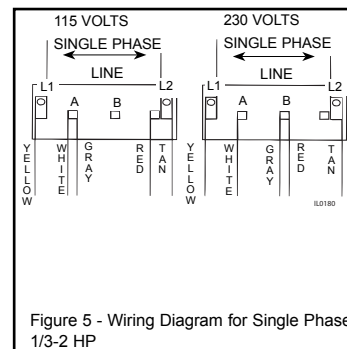

Figure 5 - Wiring Diagram for Single Phase 1/3-2 HP
⚠ Use wire size specified in wiring Chart D. If wiring diagram on motor model plate differs from diagram shown in Figures 5 & 6, follow diagram on motor.
2. To change voltage, remove the rear access cover, which is held in place with two (2) screws. For proper electrical connection, refer to the connection diagram located on the motor nameplate or Figure 5 above.